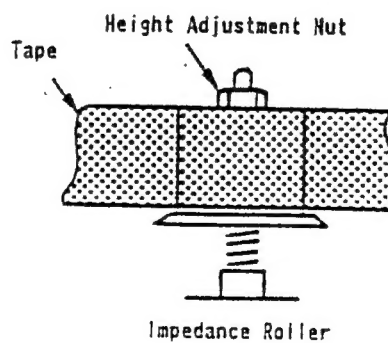

Fig. 2-4
6. If any curling or creasing is noted, adjust tape guide roller and impedance roller first. In this case, adjust the impedance roller in both PLAY and REV modes so that tape runs as shown in Fig. 2-4.